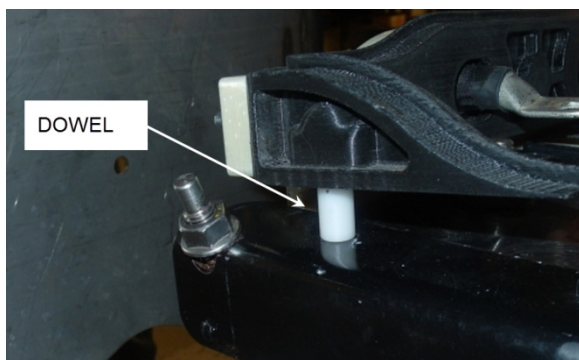

FIGURE 52: DOWEL ON ANGLE
- Align the dowels on the angles with the holes on the cable guides (FIGURE 52).